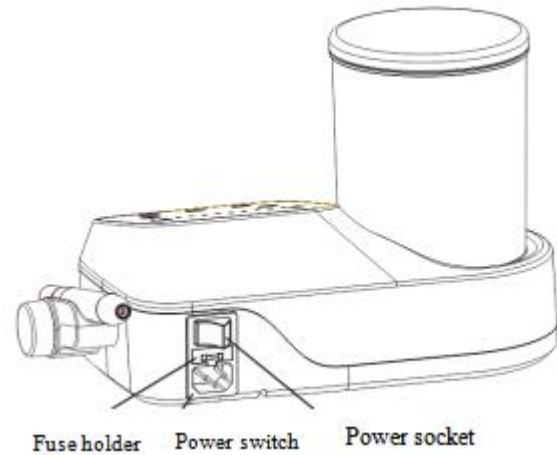

Figure 2 Rear Schematic Diagram
- (6) Set the power switch of the main unit to OFF state, then connect the output terminal of power supply cord to the main unit, and connect the input terminal of power supply cord to mains electricity (see Figure 2).
- (7) Turn on the power switch, the indicator light of key "P" and the first 3 power indicators will light up.
- (8) The operator shall select the operation mode of "G" and "P" according to the series of ultrasonic scaler tips. Please refer to the attached Table for the details of power used by the ultrasonic scaler tips.
- (9) When the product is working normally, the frequency is fast; When water spray from the tip normally, gently contact and reciprocate at a certain speed, so that the dental calculus can be removed, and there is no obvious feeling of fever on the surface of ultrasonic scaler tips; Do not use excessive force locally or stay too long times when scaling teeth.
- (10) Vibration strength: adjust the magnitude of vibration strength according to requirements; Generally, it is recommended that adjust to moderate vibration strength, or adjust it at any time in the clinical process according to the sensitivity of the patients